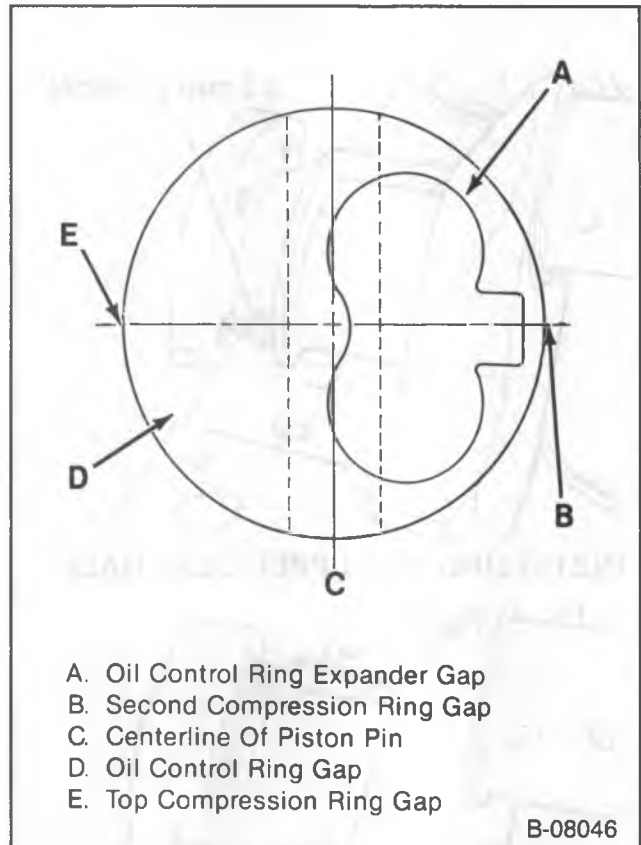

Figure 34—Ring Gap Location
Install or Connect (Figures 34, 35, and 36)
- Locate the piston ring end gaps as shown in figure 34. Lubricate the piston and rings with engine oil.